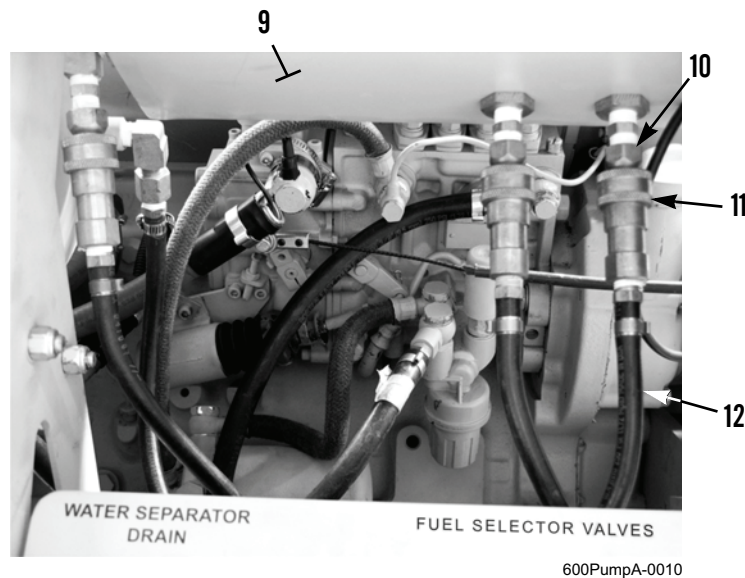

Figure 15. Quick Disconnect for Pressure Gauge Hose.
23. Under control panel box (Figure 15, Item 9), connect quick disconnect fitting (Figure 15, Item 11) to quick disconnect fitting (Figure 15, Item 10) on pressure gauge hose (Figure 15, Item 12).